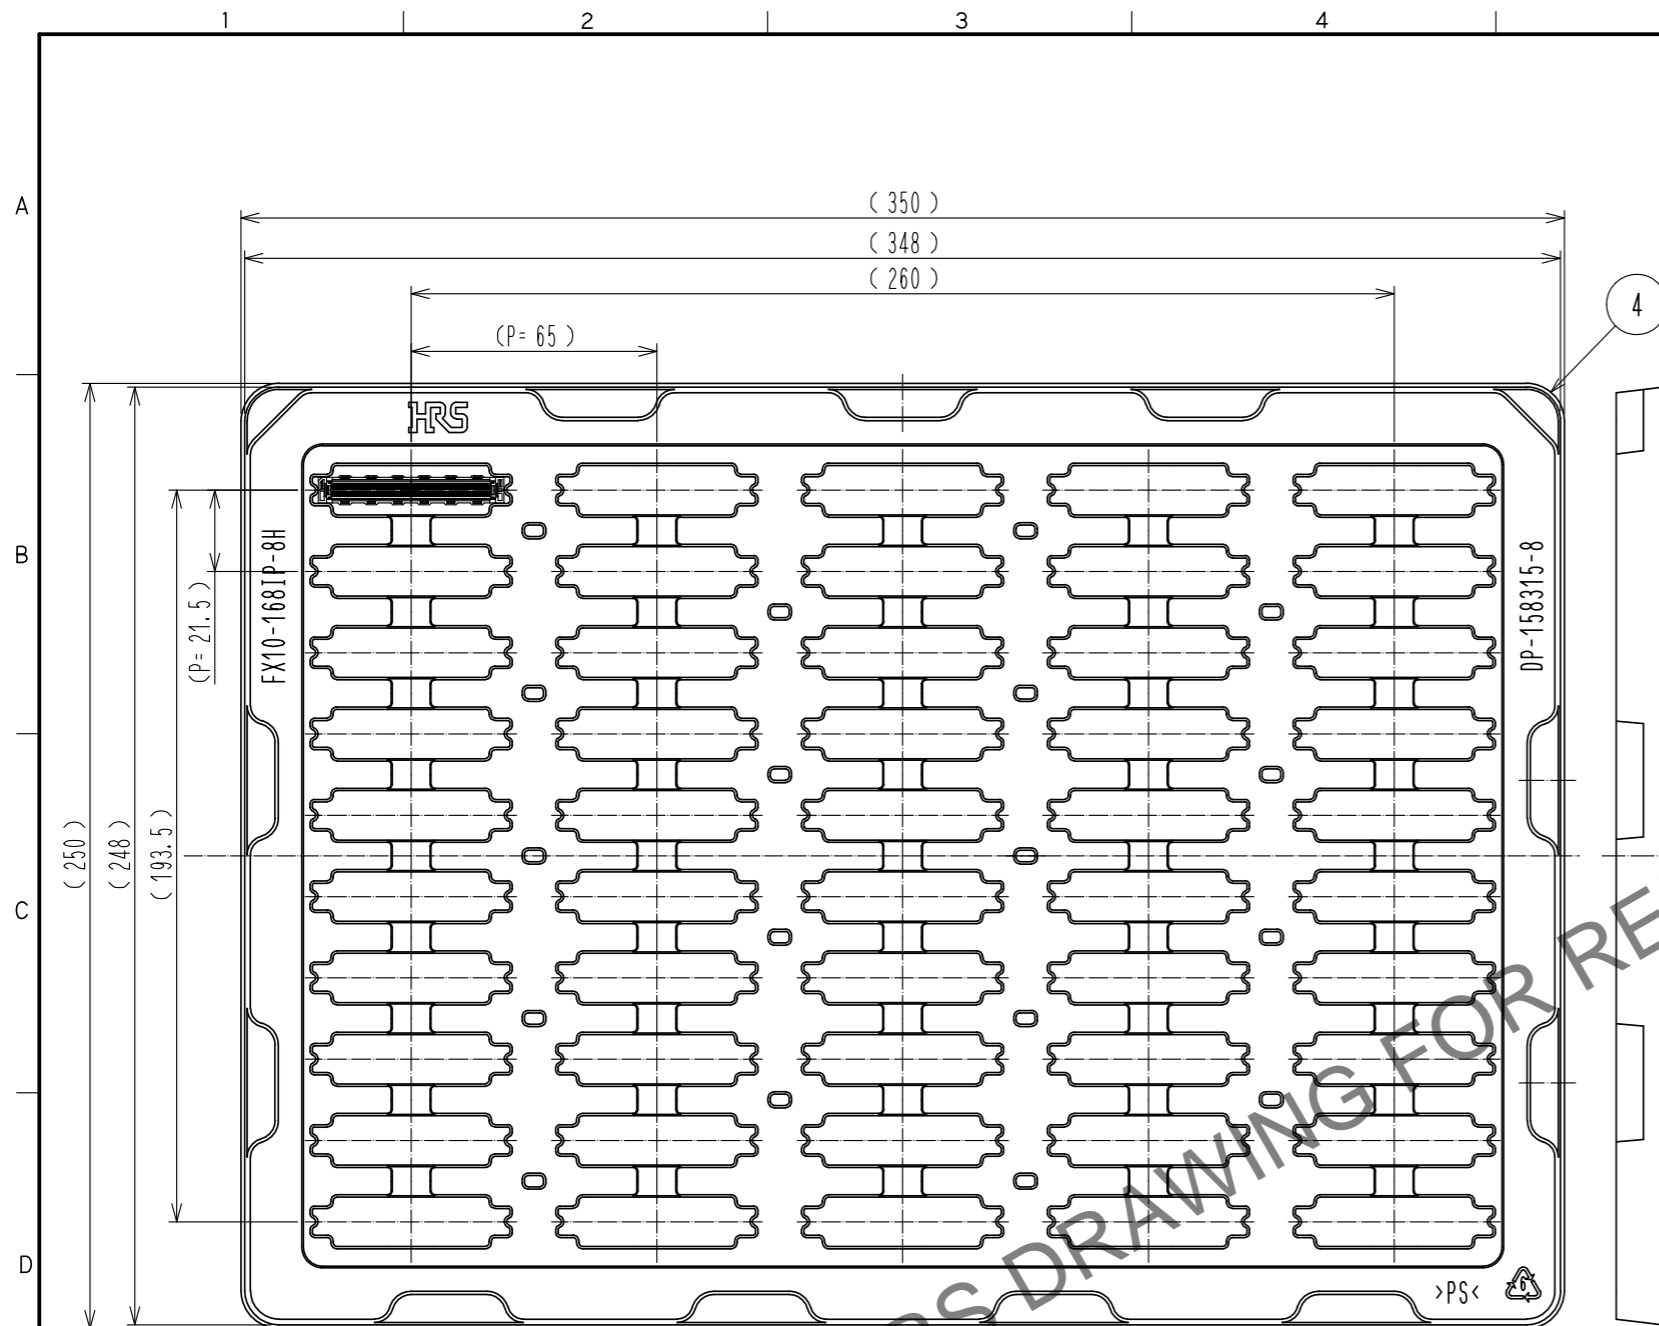

Fig.3 Drawing for packing (1:2) 6
- 6 50pcs of this product are packed in soft tray. See Fig.3 for details.